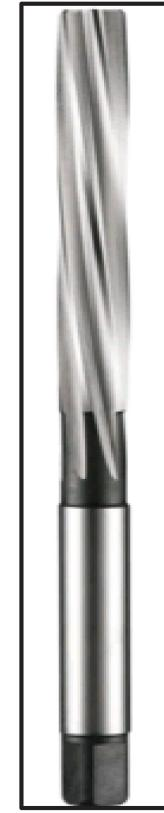

Figure 2.26 Hand Reamer
2.2.4.7 Reamer :Reamer is used to control the diameter of a hole already drilled. It is also used to improve the internal surface finish of the drilled hole and improves the roundness of the hole. Reamer is made of hardened High Carbon Steel or High-Speed Steel. It is classified into hand reamer and machine reamer. Hand reamer (Figure 2.26) has two types of flutes: - straight and spiral flutes. The spiral flutes hand reamer has a left-hand spiral flutes. The purpose of the design is to prevent the reamer "screw in" the hole.